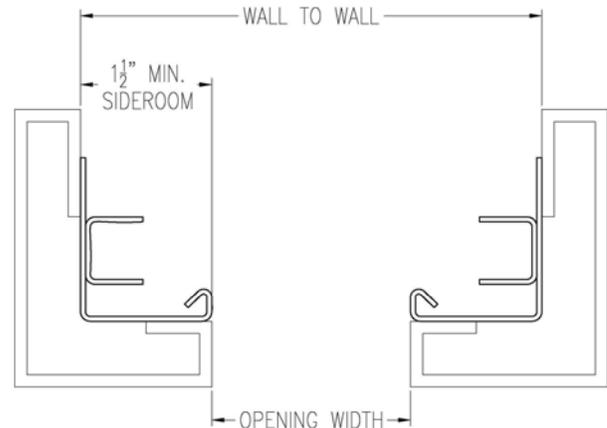
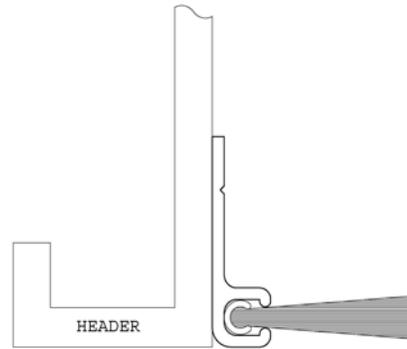

FIG. 3
FIG. 4
STEP 5: VERTICAL TRACK INSTALLATION: Before installing vertical tracks remove the wheels from the head plates. Position vertical tracks on corner posts as shown in Fig. 3 and clamp in place. Notch in mounting angle (side seal retaining flange) should line up with the bottom of header.
Make sure the mounting angle is flush with the inside edge of the rear corner posts all the way up and down, Fig. 3. Before fastening, make a diagonal measurement (corner to corner) to be sure the vertical angles are square with the sill. Once verticals are in, install header seal, Fig 4.